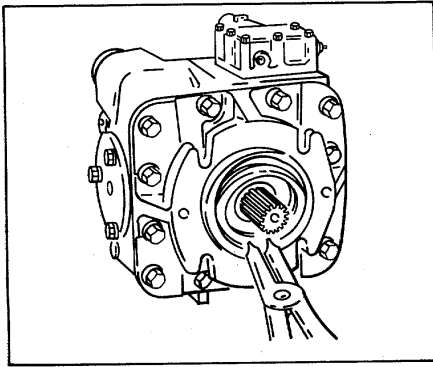

Figure 16.
2. Insert Truarc #7 pliers in snap- ring holes, compress ring and roll out (refer to Fig. 16).